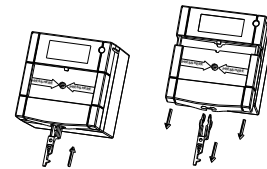

Fig. 3: Separate the front face from the body
NOTE: The unit comes separated from the back-box, ready for installation. However, if necessary, separate the front face from the body by inserting the reset key and gently pulling the lower portion of the front face down from the body (see Figs. 3 ~ 5).
1. Separate the front face from the body by inserting the reset key and gently pulling the lower portion of the front face down from the body (see Fig. 3).